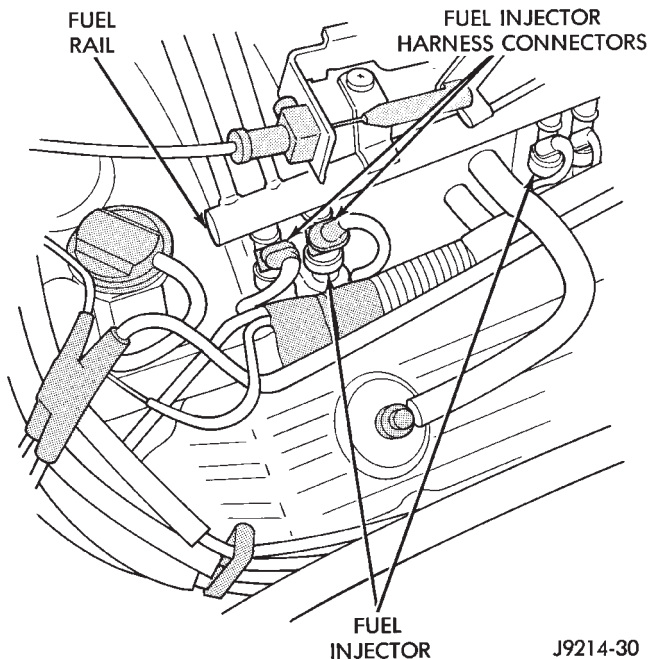

Fig. 32 Fuel Injector Connectors—Typical
- (6) Disconnect electrical connectors at all fuel injectors (Fig. 32). The factory fuel injection wiring harness is numerically tagged (INJ 1, INJ 2, etc.) for injector position identification.
- (7) Disconnect fuel tube (line) at side of fuel rail. Refer to Quick-Connect Fittings for procedures.
- (8) Remove the remaining fuel rail mounting bolts.